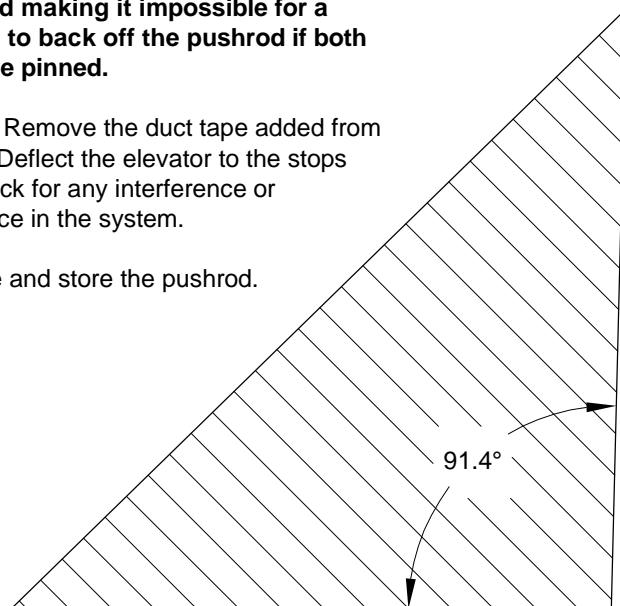

FIGURE 1: TEMPLATE
Step 2: Transfer the template shown in Figure 1 to a piece of stiff cardboard or wood. (To avoid cutting up your plans centerpunch through the paper just at the 3 corners.) Adjust the rod end bearings on the F-1091 Elevator Pushrod until the angle of the F-635 Bellcrank Assembly matches that of the template as shown in Figure 2.